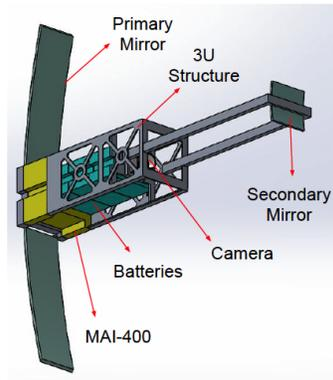

Figure 1: This figure is only intended to illustrate the deployed structure element, labeled ‘Primary Mirror’ here, for question 2g) and 2h).
Problem parameters: The CubeSat has a '3U' form factor, with dimensions of $10\text{ cm} \times 10\text{ cm} \times 30\text{ cm}$ and mass of 5 kg. This particular CubeSat has two deployable panels that have a mirrored coating on the nadir face, and a deployable boom for the imaging system as shown in Figure 1. The CubeSat is deployed in Low Earth Orbit (LEO), from the International Space Station (ISS), which is in a nearly circular orbit with an altitude of $\sim 405\text{ km}$ and an inclination of $\sim 51.6^\circ$
- g) *Space Systems Engineering Students Only: The CubeSat has two deployed panels as shown in Figure 1. Assume the panels are formed from aluminum and rigidly fixed to the bus after deployment. Each panel is 30 cm long, 10 cm wide, and 5 mm thick. What is the mass of each panel? Calculate the first 5 natural frequencies for a deployed panel. What does this mean for the spacecraft attitude determination and control system, assuming the CubeSat uses reaction wheels that can spin between 0 rpm and +/-10,000 rpm?*